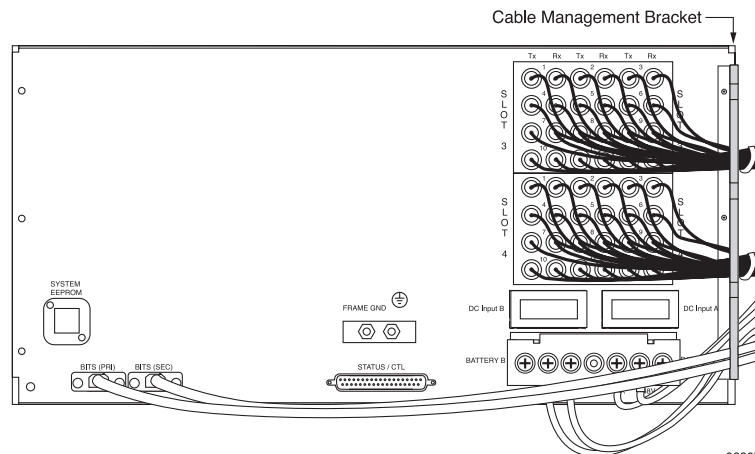

Figure 23 Cable Routing at the Rear of the SmartEdge 400 Chassis
3. Optional. Connect and route the external timing cables; see Figure 23: